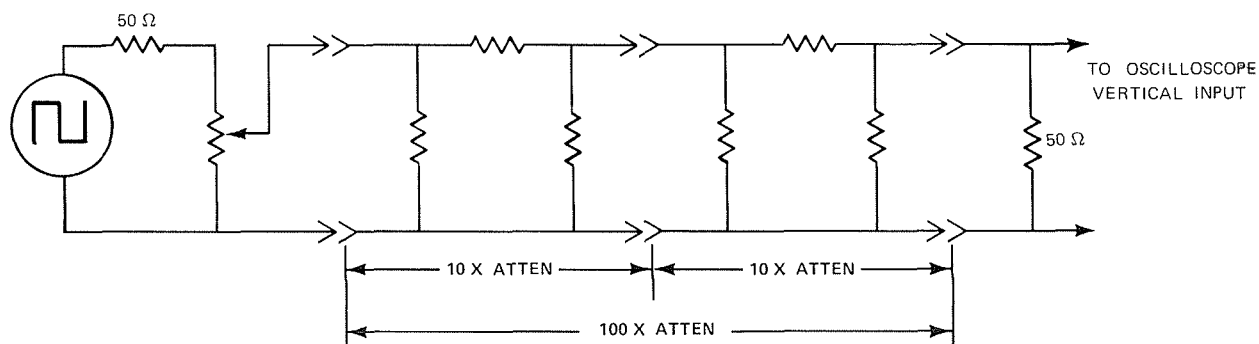
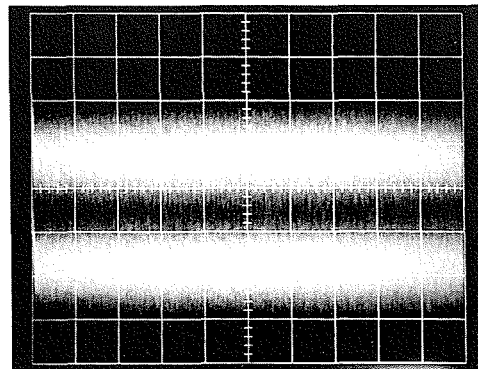

Fig 2. Equipment setup for measuring displayed noise.
Fig 3. Initial setup for tangential noise measurement.
1. Set up equipment as in fig 2.
3. Set the oscilloscope vertical volts/division to the deflection factor where the noise is to be measured, and apply the signal from the test setup shown in fig 2. Adjust the squarewave amplitude so two bands of noise can be observed on the CRT, see fig 3.